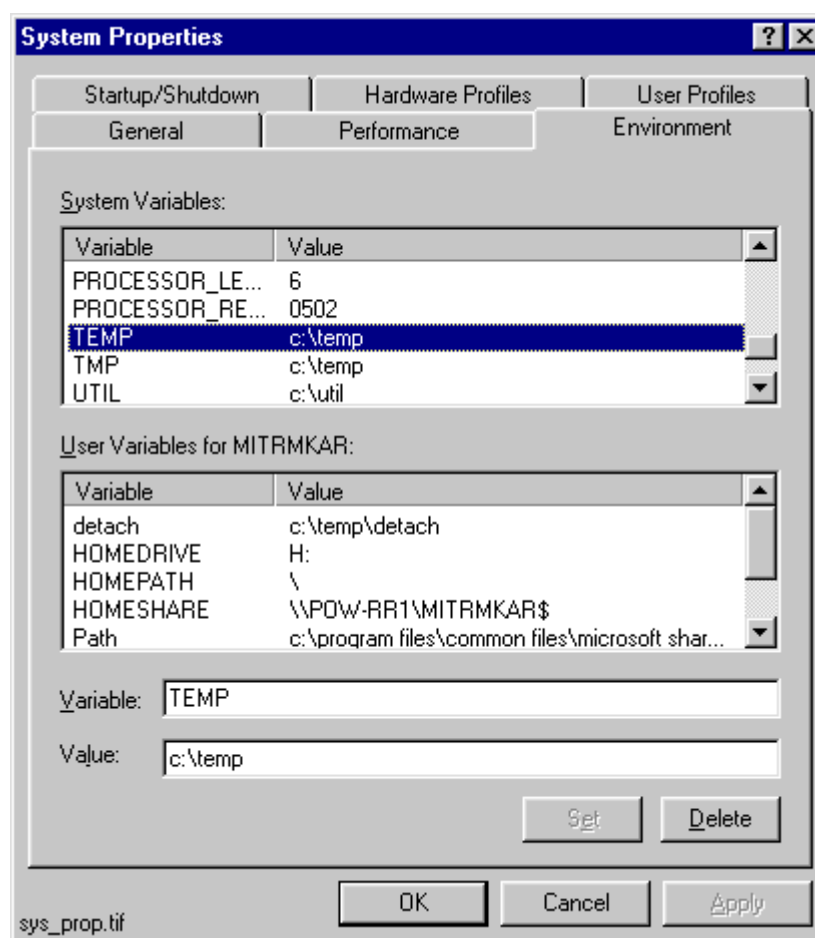

Fig. 5.11.2.-1 The TEMP environment variable setting
2. Choose the Environment page as shown in Figure 5.11.2.-1 and locate the TEMP variable from one of the lists. The setting may be defined both as a System and a User variable. If found, the User variable setting overrides the respective System variable setting.